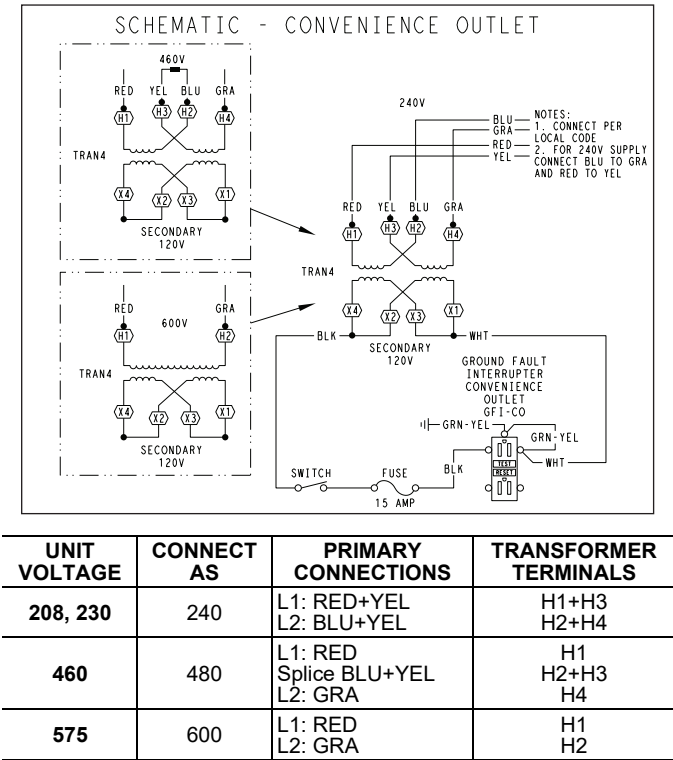

Fig. 26 — Powered Convenience Outlet Wiring
The primary leads to the convenience outlet transformer are not factory-connected. Selection of primary power source is a customer option. If local codes permit, the transformer primary leads can be connected at the line-side terminals on the unit-mounted non-fused disconnect; this will provide service power to the unit when the unit disconnect switch is open. Other connection methods will result in the convenience outlet circuit being de-energized when the unit disconnect switch is open. See Fig. 26. On a unit without a unit-mounted disconnect, connect the source leads to the main terminal block (TB1).
2. Install power lines to terminal connections as shown in Fig. 26.